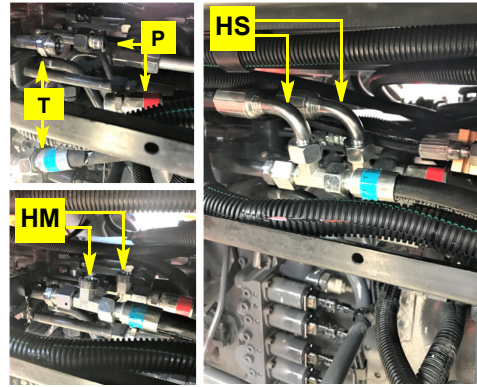

Figure 5: Tank and pressure hoses disconnected; run tees installed; tank and pressure hose connected
- b. Disconnect the hoses from the lines (Figure 5, top left image) and install run tees **HM** (bottom left image). Connect the tank and pressure hoses **HS** to from the T and P ports of **HA** to their respective run tee branches here (Figure 5, right image).